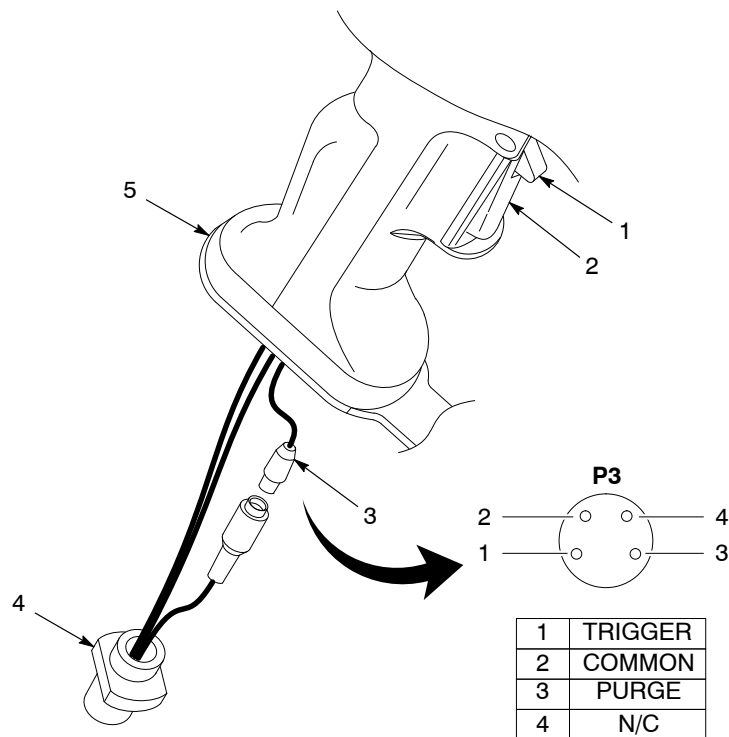

Figure 6-4 Trigger and Purge Switch Continuity Check
See Figure 6-4. Check the trigger (2) and purge (1) switch continuity by performing the following procedure:
1. Remove the cable strain relief (4) from the gun base (5).
2. Pull the cable out far enough so the P3 connector (3) is accessible.